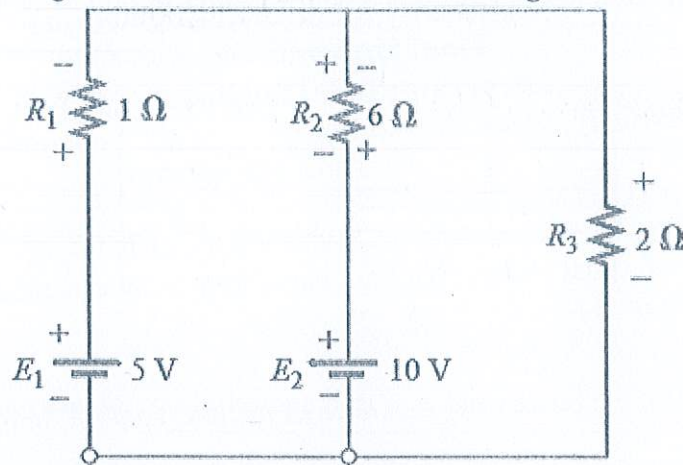

Figure 3
3. Find and list the voltage of each element of the circuit of figure 3.